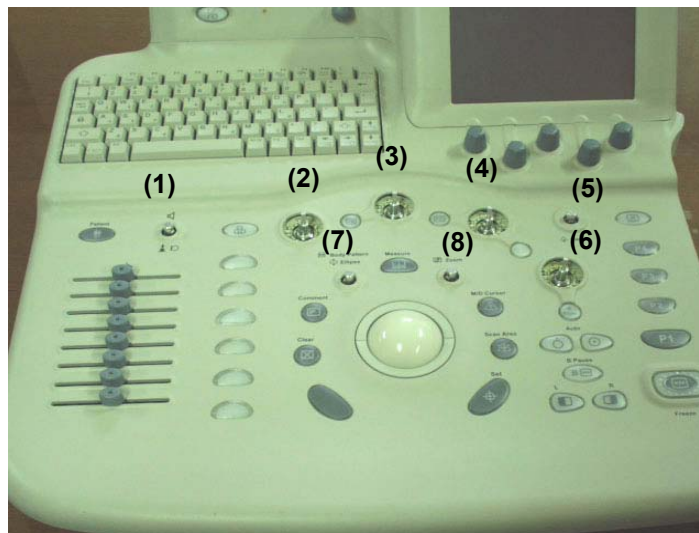

Figure 8-27 Removing 8 encoder knobs
- 1.) Remove the eight(8) encoder knobs (1-8) from the front side of the Keyboard. Refer to Figure 8-27 on page 8-20 .